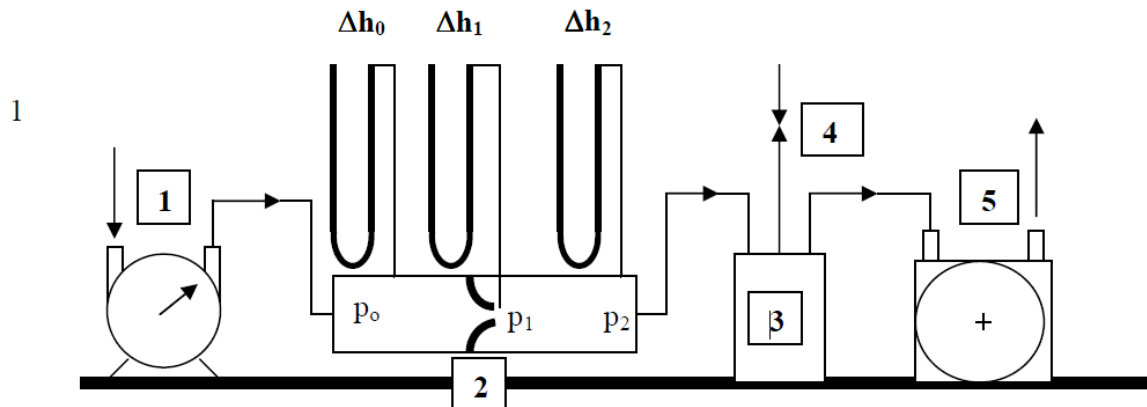

Fig. 1. Schematic representation of the test station
The schematic representation of the test station is shown in fig. 1. Ambient air, with pressure p_0 and temperature T_0 flows through the gasometer (1) to the nozzle (2). The air flow is forced using a vacuum pump (5) that produces a sufficiently low (regulated) pressure p_2 behind the nozzle. This pressure is regulated by the valve (4) on the bladder tank (3). Pressure drops are measured using differential pressure manometers (U-tubes); where Δh_0 is the pressure drop before the nozzle, Δh_1 is the pressure drop at the nozzle, and Δh_2 - the pressure drop behind the nozzle. To measure the air flow rate, a gas meter and stopwatch are used.